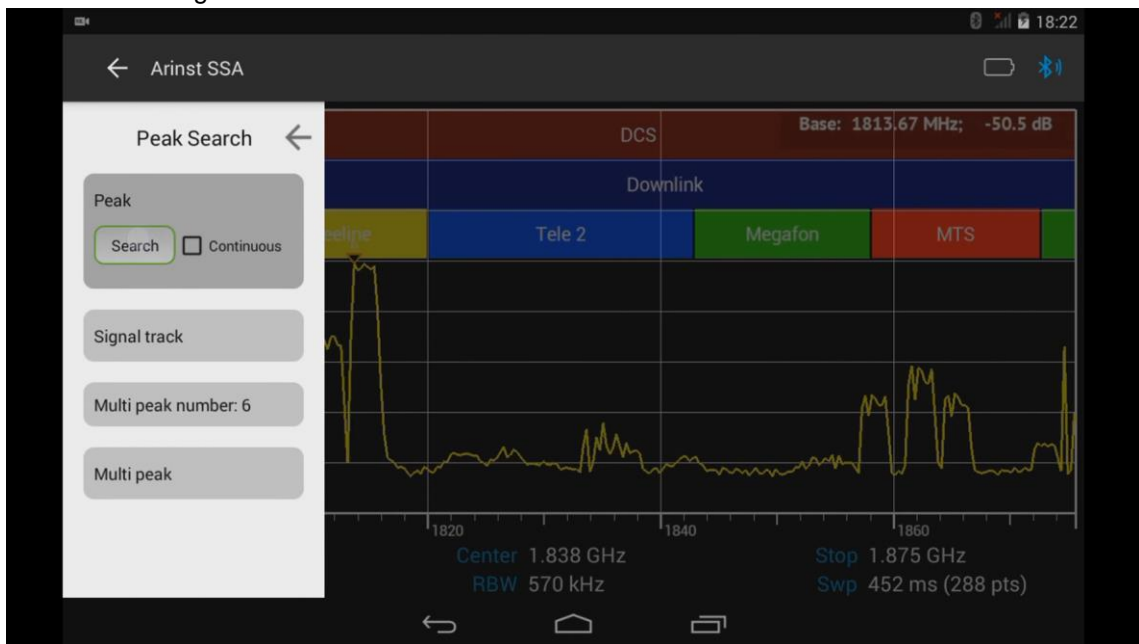

Figure 46 – Automatic setting of the marker to the maximum value of the signal
8.8.2. Enter the submenu **Peak** and click **Search**, as shown in figure 46. The marker is automatically set to the maximum signal value.